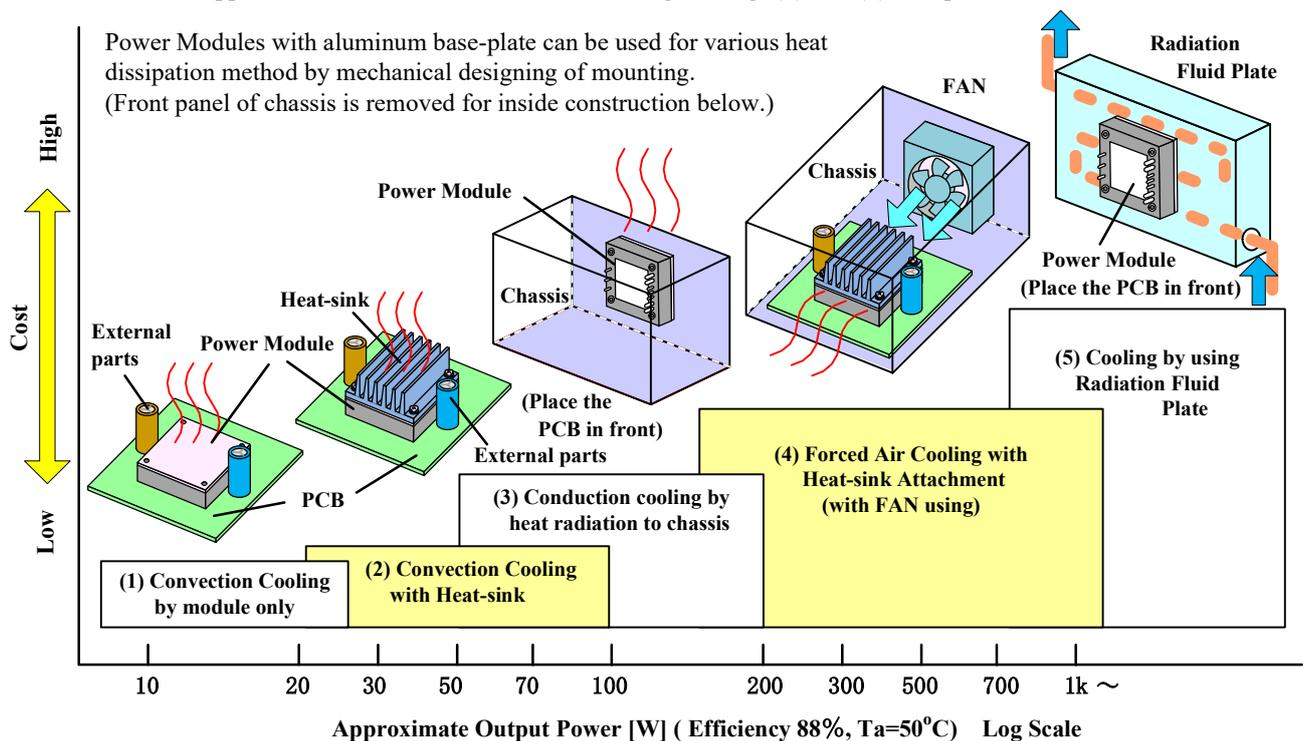

Fig. 2-1 Variation Example for Heat Dissipation Design
Power Module Products that employs a mechanical structure using Aluminum PCB as baseplate requires attachment of Heatsink, etc. for Conduction Cooling. Therefore, Thermal Radiation Design is required when using these power modules. Thermal dissipation conditions vary depending on the structure of the equipment or the installation environment where the power module is to be mounted. Therefore, end-user need to perform a suitable thermal design, to ensure that the baseplate temperature of the power module is within allowable maximum specification before using. As shown in Fig. 2-1, there are various types of thermal radiation (dissipation) method, providing a certain degree of freedom for equipment design to suit end-user application. In this document, thermal design of Fig. (2) and (4) is explained below.